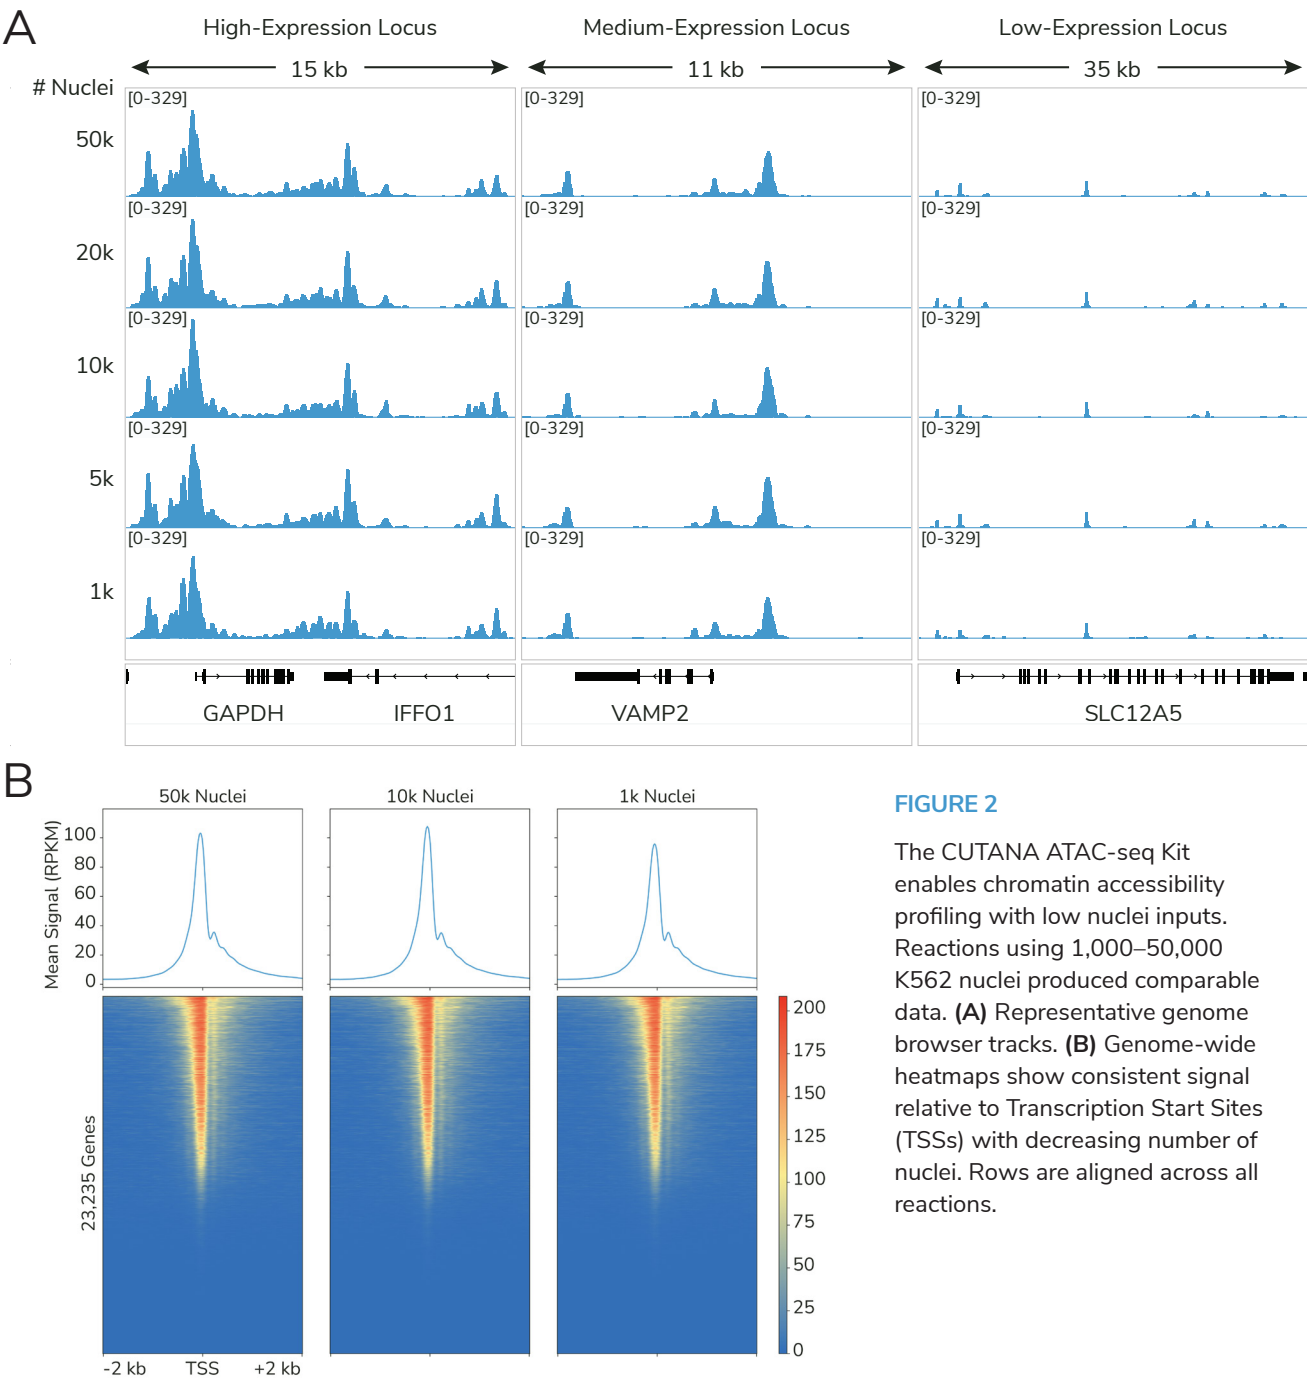

FIGURE 2
- **Low input requirements.** Although it is recommended to target 50,000 nuclei per standard reaction, comparably high-quality data can be generated down to 1,000 nuclei (Figure 2), making this kit well-suited for rare sample types and low-input applications.